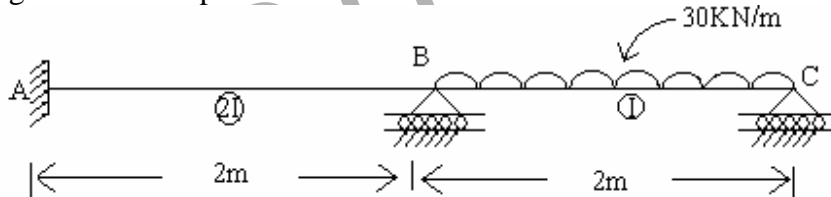

Fig.2
3. Analyze the continuous beam shown in Fig.2 using theorem of three moments. Draw shear force and bending moment diagrams. Mark the location of maximum bending moment and points of contraflexure and hence draw elastic curve. [16]